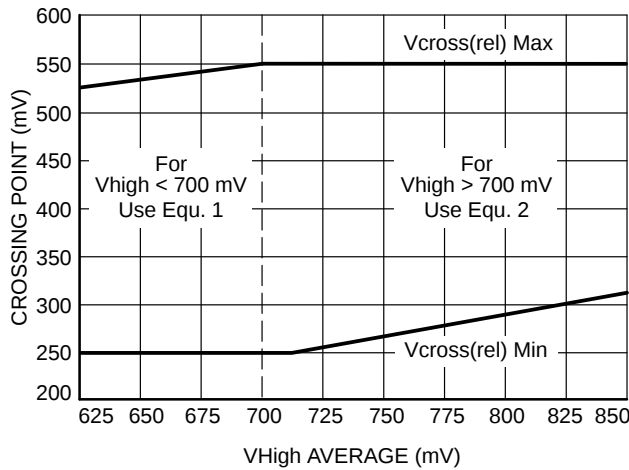

Figure 7. Vcross Range Clarification
28. Vcross(rel) Min and Max are derived using the following, Vcross(rel) Min = 0.250 + 0.5 (Vhavg - 0.700), Vcross(rel) Max = 0.550 - 0.5 (0.700 - Vhavg), (see Figure 7).